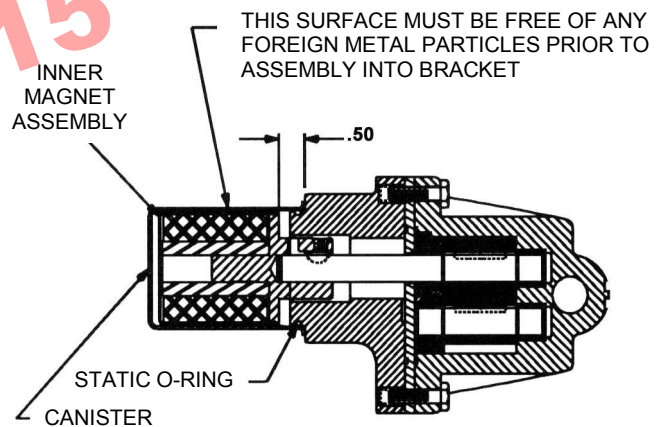
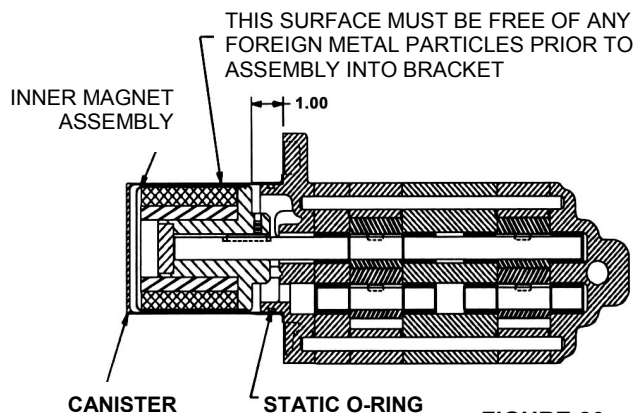

FIGURE 19
FIGURE 20
3. Place inner magnet assembly onto pump shaft and set according to figures. See Figure 19, or (See figure 20). Place Loctite on threads of the two setscrews then tighten. Check the dimension again, then turn the pump over a couple of times to make sure it turns freely. Inspect magnet and make sure it has not picked up any foreign particles which could damage the pump. Make sure bracket O-ring is in good condition and installed. Place canister onto pump and press until canister is in contact with pump bracket.